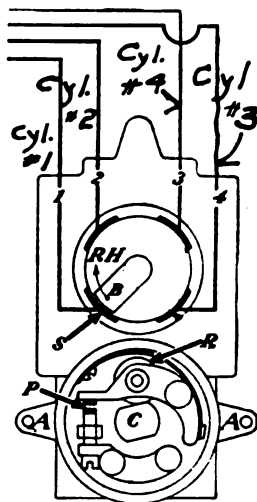

Fig. 24
- 179** — The upper half of Fig. 24 shows a view of the distributor. Unscrew nut No. 55, remove high tension bridge No. 100, remove cap, which gives view of distributor and brush "B." The carbon brush may be removed and scraped if it has a hard, irregular glaze on the surface that distributes the current to the contacts. Occasionally a brush may be worn and carbon dust will be worn off and in falling to the bottom will short-circuit cylinders Nos. 1 and 4. The distributor should be wiped with a clean cloth saturated with gasoline when required. After the magneto has been in service a long time, the face of the distributor may become rough. Dressing the surface lightly with 000 sandpaper is all that will be required.
- 180** — Refer to Fig. 24 on this page and Fig. 34, page 66.
Third: Shift the magneto slowly by hand in the proper direction of rotation till the contact points "P" in Fig. 24 are just commencing to separate. This is the firing point of the magneto and in timing the magneto must occur when the piston is on top center with magneto in full retard. From the full retard the circuit breaker can be advanced about 30 degrees.